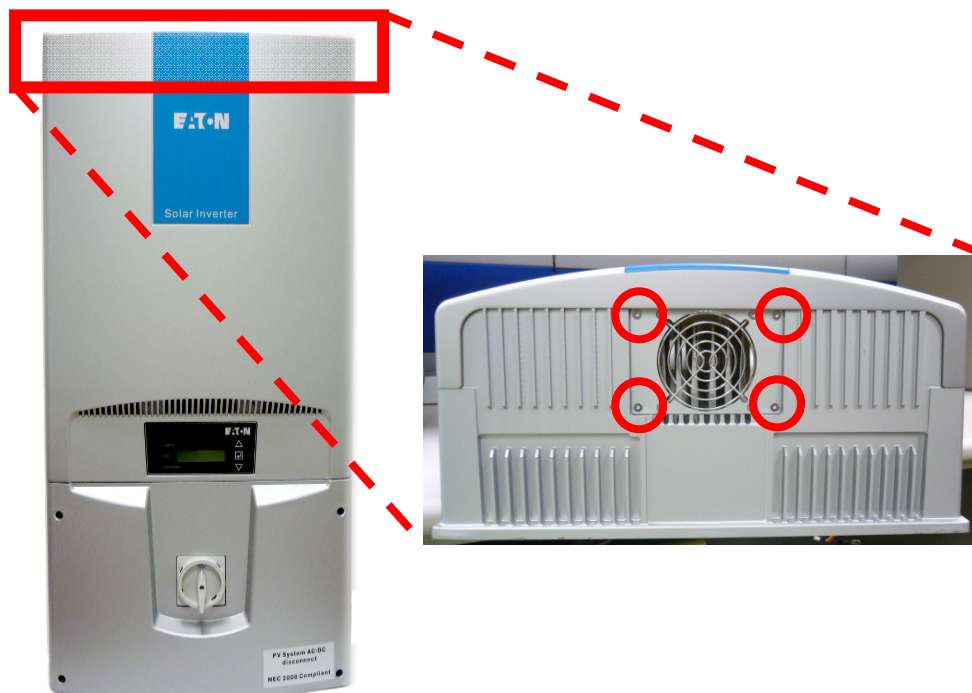

Figure 9.1.2: Screws for the external cooling fan
For PV260 and PV270 models, there is an external cooling fan and the internal cooling fan designed within PV inverter for the thermal management. The external fan is located on the top-front side of PV Inverter as shown in figure 9.1.2. When the cooling fan is not working properly, user will be able retrieved three different kinds of failure messages from the LCD. “**FAN Lock**” is the first failure message that user can retrieved from the LCD when both external and internal cooling fan are not working properly. “**FAN1 Lock**” is the second kind of failure message the user can be retrieved from the LCD when the external cooling fan is not worked properly. “**FAN2 Lock**” is the last kind of failure message the user can be retrieved from then LCD when the internal cooling fan is not worked properly.
- B) Unfastening all screws located in each corner as highlighted in figure 9.1.2. After the screws are removed, lift out the top cover of the cooling fan from PV Inverter as indicated the figure below: